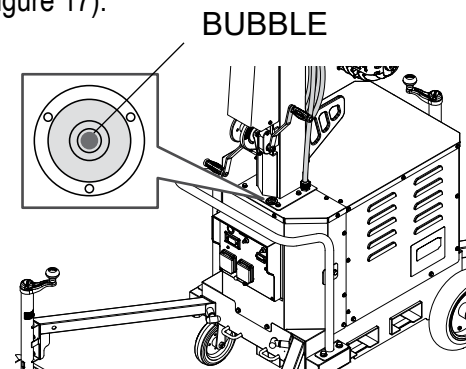

Figure 17. Cart Level
1. When adjusting the outriggers of the cart, make sure that the air bubble is in the middle of the level (Figure 17).